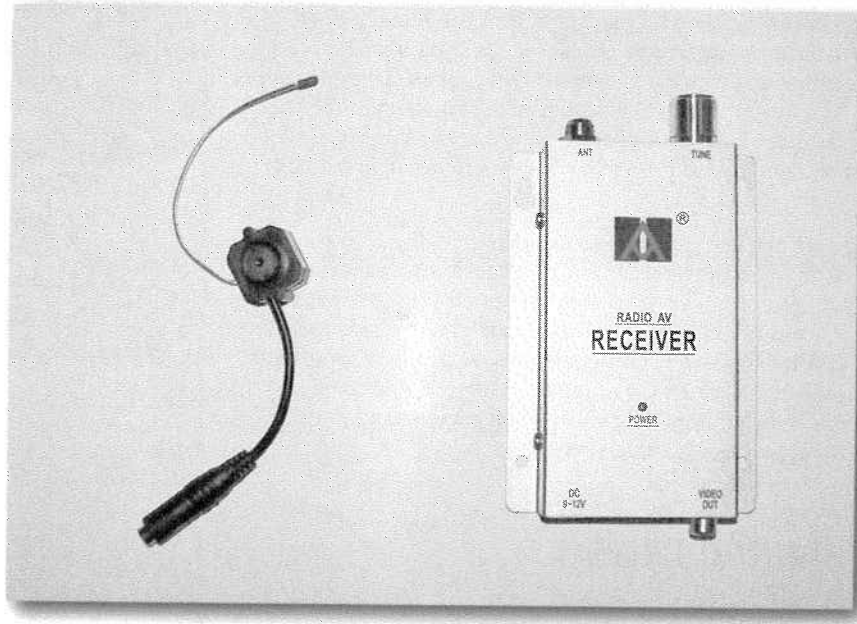

FIGURE 20-1: The New Way Technology wireless video camera and receiver.
- The New Way Technology wireless video camera (~\$35, shown in Figure 20-1). This camera is practically impossible to find for sale in stores, but you can find it easily on eBay by searching for “wireless video camera.” Make sure that when you buy it on eBay you get one that comes with the 9-volt adapter so you can use a battery pack to power both the camera and the video receiver.